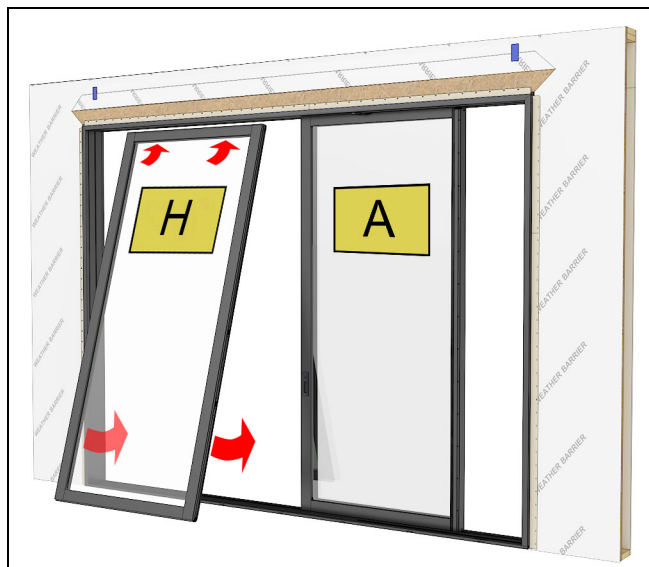
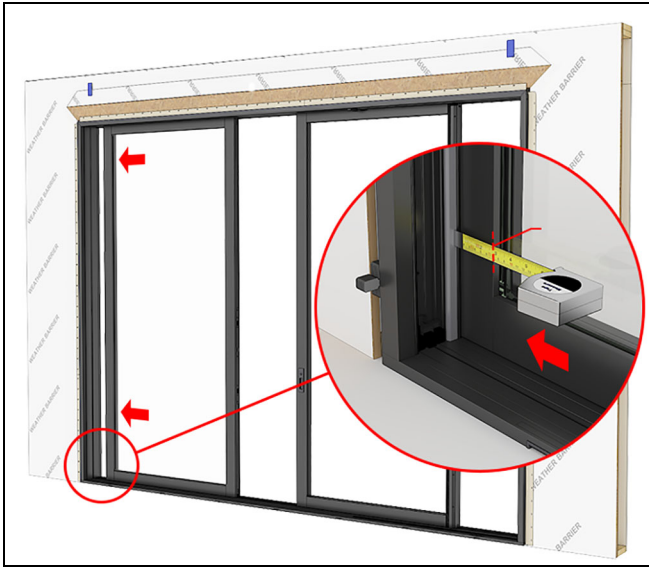

Figure 96
Figure 97
5. Install the first stationary panel (H) on interior track, slide panel tight against the stationary jamb. Measure from the jamb to the edge of the daylight opening. This should be about 2 5/8". See Figure 96 and Figure 97.